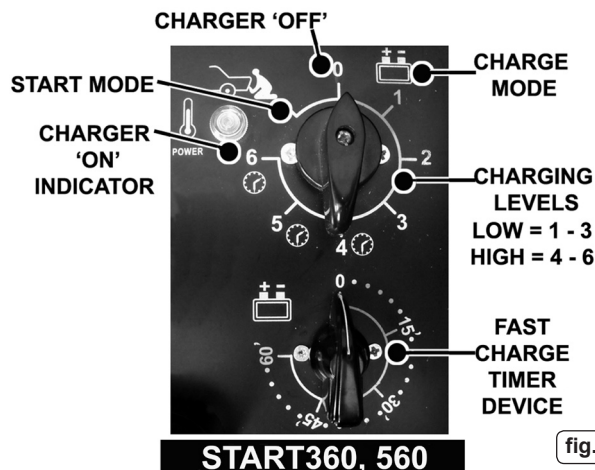

fig.3
- START 360 & START560** (see fig.3). Select charge level 1,2,3,4,5, or 6 using the rotary switch above the timer.